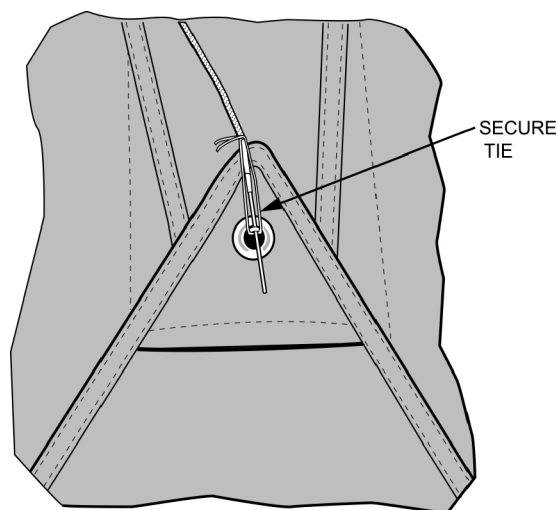

Figure 3. Ripcord Pin Secure Tie
(4) Insert ripcord pin through ripcord housing. Secure ripcord handle into ripcord pocket. Push down over temporary closing pin and insert ripcord pin into closing loop. Remove temporary closing pin.
(5) Using a 12-in. length of size A thread, single and waxed, form Lark's head knot above ripcord pin ferrule. Tie two half hitches around ripcord cable above ripcord pin ferrule. Separate thread and route one thread under ripcord pin and against closing loop, tie with a surgeon's knot, followed by a square knot, followed by a binders knot. Trim off excess thread (Figure 3).